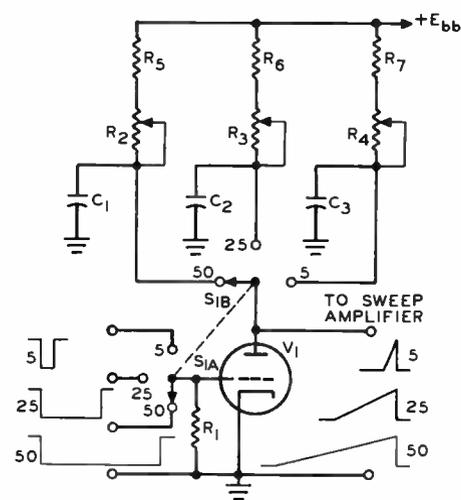

FIGURE 15
In the sweep circuit of Figure 15, the **TIME DURATION** of the sweep is determined by (A) the value of  $+E_{bb}$ . (B) the duration of the gate pulse. (C) the amplitude of the gate pulse. (D) the time constant of the sawtooth-forming capacitor and its series resistance.